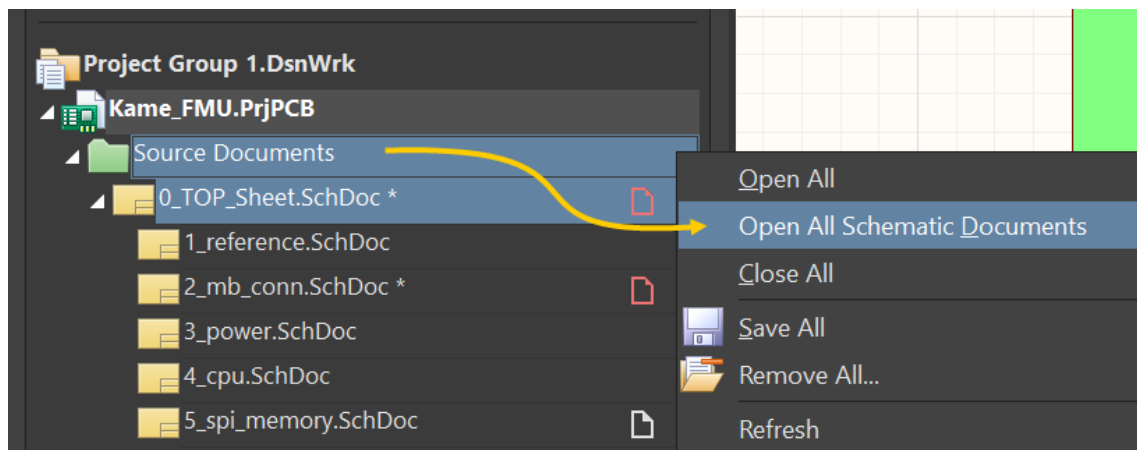

Figure 26. Unhide all schematic documents
58. We will open all of the schematic sheets in our design by right-clicking on the *Source Documents* folder of our project and select **Open All Schematic Documents** as shown in Figure 26.